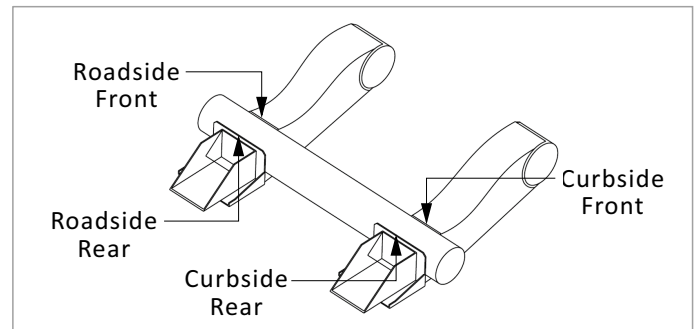

FIGURE 20
- » Some brackets are attached to trailer axles with multiple welds. For example, at each of the weld locations shown in (Figure 20), roadside front, curbside rear, etc., three weld passes are applied. Axle distortion can be minimized in this situation by sequencing the welds. This involves alternating weld passes from the front to the rear of an individual bracket and between the brackets located on the axle roadside and curbside. This is in contrast to applying all the welds at one bracket location prior to applying the welds at other locations.